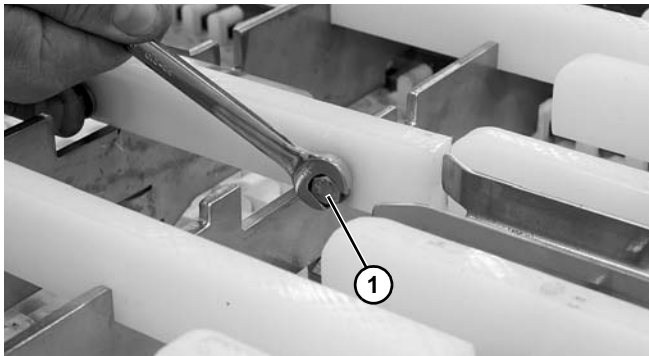

Figure 45
1. Remove the screw (**Figure 45, item 1**) retaining the wear strip to the frame crossmember.